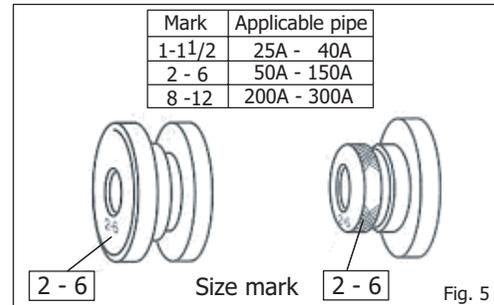

Fig. 5
- 1) Use rollers that match the pipe being processed. (Refer to Fig. 5)
- Make sure you use rollers that match the pipe size. When delivered, the machine is fitted with rollers for 2" - 6" steel pipe. When processing other types of pipe, change the rollers according to the instructions below. (Fig. 5)